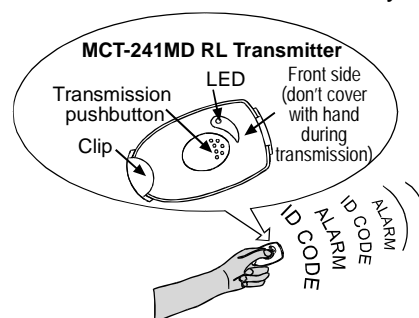

Figure 1 - Using the MCT-241MD RL
- Depressing the recessed oval pushbutton (see Fig. 1). A built-in timer determines the transmission time to 3 seconds, even if the user maintains the button pressed shorter or longer than that.
A red LED (see Fig. 1) lights steadily during transmission, to reassure the user that a transmission is taking place and to indicate that the battery condition is good. If the LED flashes each time the transmitter is triggered, this indicates that the voltage is low and the battery must be replaced as soon as possible.